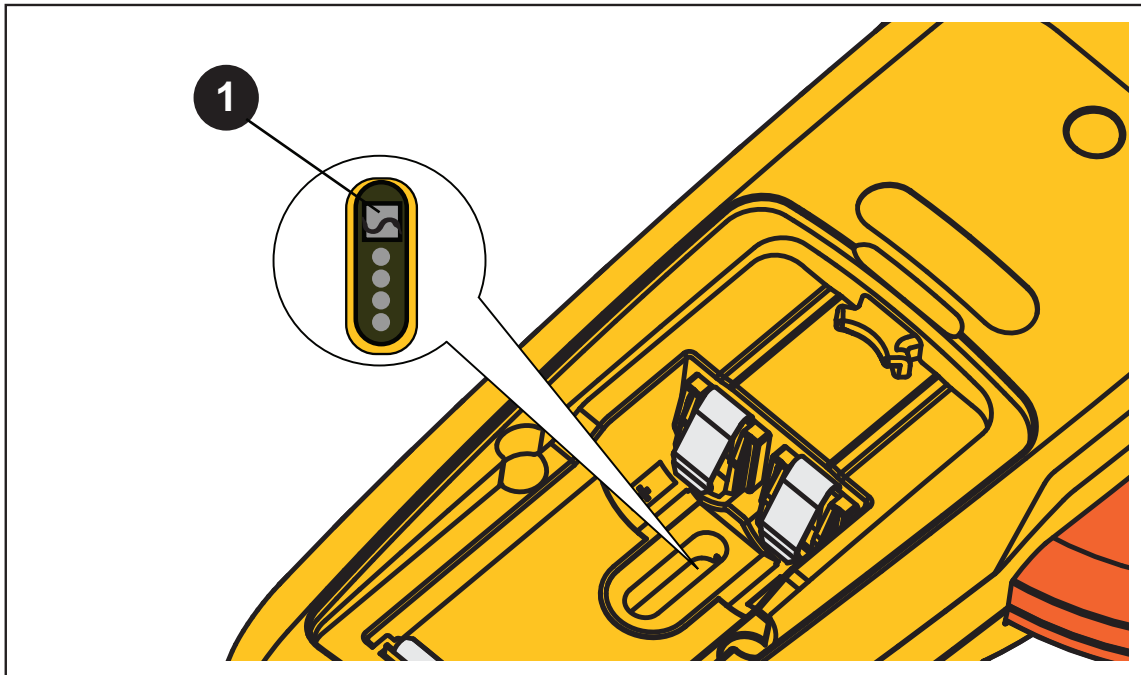

Figure 2. Calibration Button
3. The recessed calibration button is underneath the calibration sticker that is underneath the batteries. Use a small probe to push through the sticker and short the two sections of the calibration button traces, see ❶ in Figure 2.